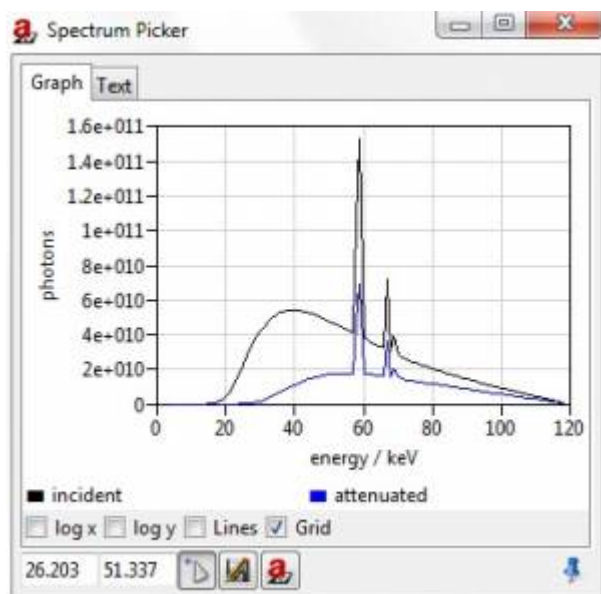

Fig. 34: Spectrum Picker
-  Show attenuated spectrum for picked position opens the *Spectrum Picker*. The incident beam is shown in black, the attenuated beam in blue (Figure 34). You can dock the window in the docking area.
and Y- coordinates manually. The beam shown in Figure 34 is attenuated by an aluminum cube.